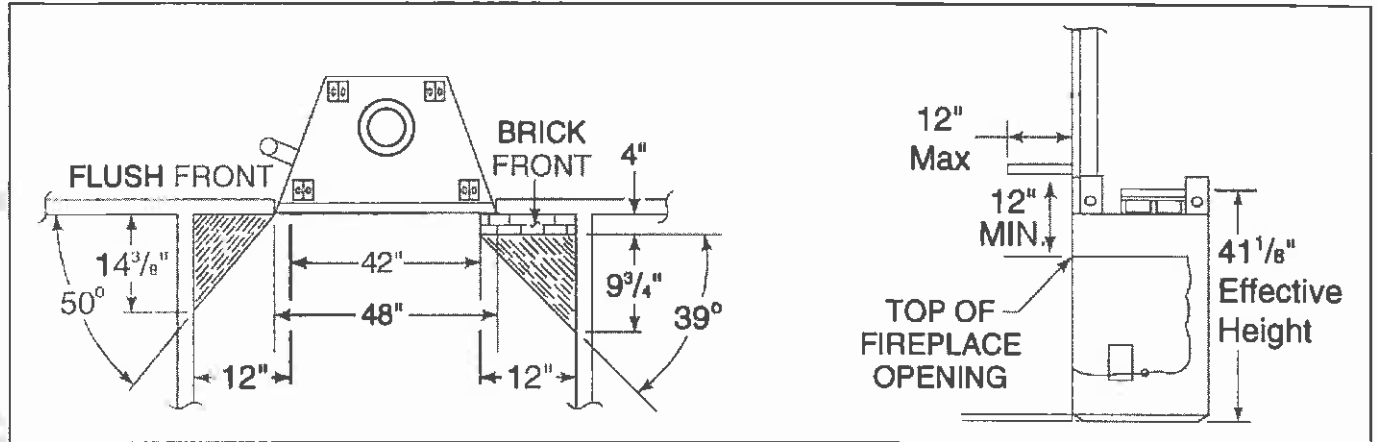

Figure 7
Adjacent combustible side walls must be located a minimum of 12" from the fireplace opening. See Figure 7. If you are using a decorative surround constructed of combustible material, it must be located within the shaded area defined in Figure 7. Short stub walls are also acceptable if they are contained within the shaded area. You must maintain adequate clearances for servicing and proper operation.
A combustible mantel may be positioned no lower than 12" above the top of the fireplace opening. The combustible mantel may have a maximum depth of 12". Combustible trim pieces that project no more than 1-1/2" from the face of the fireplace can be placed no closer than 6" from the top and side of the fireplace opening. However, they must not cover the black metal front of the fireplace. This mantel clearance is in accordance with Section 7-3.3.3 of ANSI/NFPA 211. Combustible trim pieces can also be located in the shaded areas shown in Figure 7.
- 6) The effective height of the fireplace assembly is 33". Effective height of fireplace assembly is measured from base of the fireplace to top of starter collar. See Figure 7.